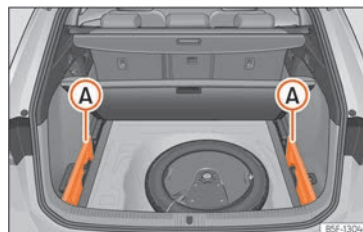

Fig. 127 In the luggage compartment: space to store the retractable shelf.
- Remove the left and right covers » **Fig. 127** **(A)**.